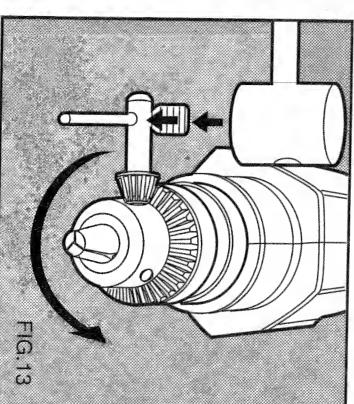

FIG. 13
3. Place key in chuck as shown in Figure 13. Using a wooden mallet or similar object, strike key sharply in a **COUNTER-CLOCKWISE** direction. This will loosen chuck so that it can be unscrewed by hand.